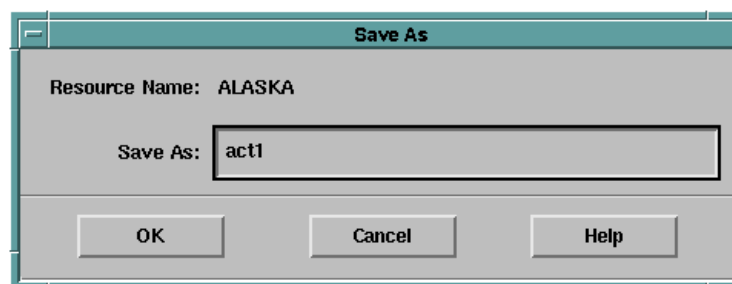

Figure 8.2.3-1. Save Activity As Dialog Box
1. Select **Save As...** from the File menu on the Activity Definer window. The Save Activity As dialog box opens (see Figure 8.2.3-1).